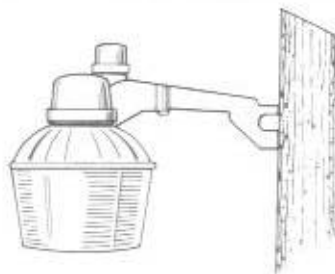

Fig. 17-17 Photo-cell controlled, high pressure sodium yard lights contribute to convenience and safety on the farm.
**Installing yard lights** Every farm will have one or more yard lights for convenience and accident prevention. Figure 17-17 shows a very efficient and long-lasting high pressure sodium yard light, photocell-controlled to turn on automatically at dusk and off at dawn. It can be mounted on a pole or high up on a building wall. Unless automatically controlled, a yard light should be controllable from at least two points: from the house and from a barn or other building. This requires three wires as shown in Fig. 10-18. It is contrary to the *NEC* to feed a yard light by tapping the wires on the meter pole. In addition, being made of metal, it must be grounded to an appropriate equipment grounding conductor.